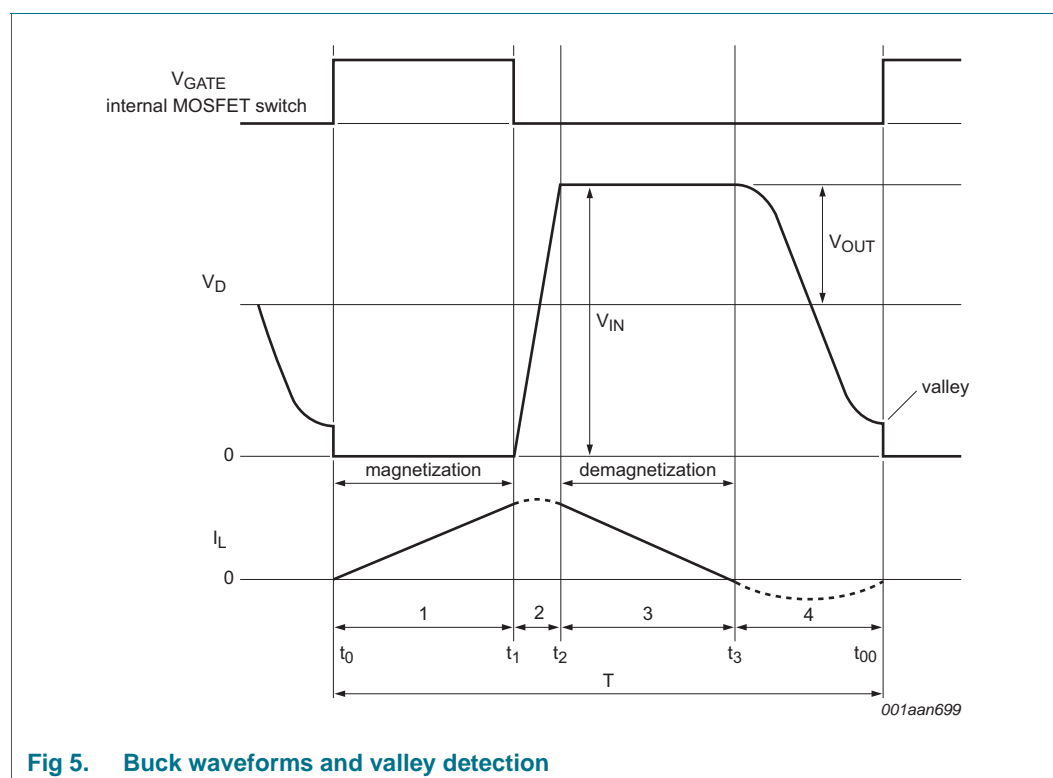

Fig 5. Buck waveforms and valley detection
A new cycle is started when the primary switch is switched on (see Figure 5). Following time t_1 , when the peak current is detected on the SOURCE pin, the switch is turned off and the secondary stroke starts (3). When the secondary stroke is complete and the coil current at t_3 equals zero, the drain voltage starts to oscillate around the $V_{IN} - V_{OUT}$ level. The amplitude equals V_{OUT} . A special feature, called valley detection is an integrated part of the SSL2108X circuitry. Dedicated built-in circuitry connected to the DRAIN pin, senses when the voltage on the drain of the switch has reached its lowest value. The next cycle is then started and as a result the capacitive switching losses are reduced. A valley is detected and accepted if both the frequency of the oscillations and the voltage swing are within the range specified (f_{ring} and $\Delta V_{rec(min)}$) for detection. If a valid valley is not detected, the secondary stroke is continued until the maximum off-time ($t_{off(high)}$) is reached, then the next cycle is started.